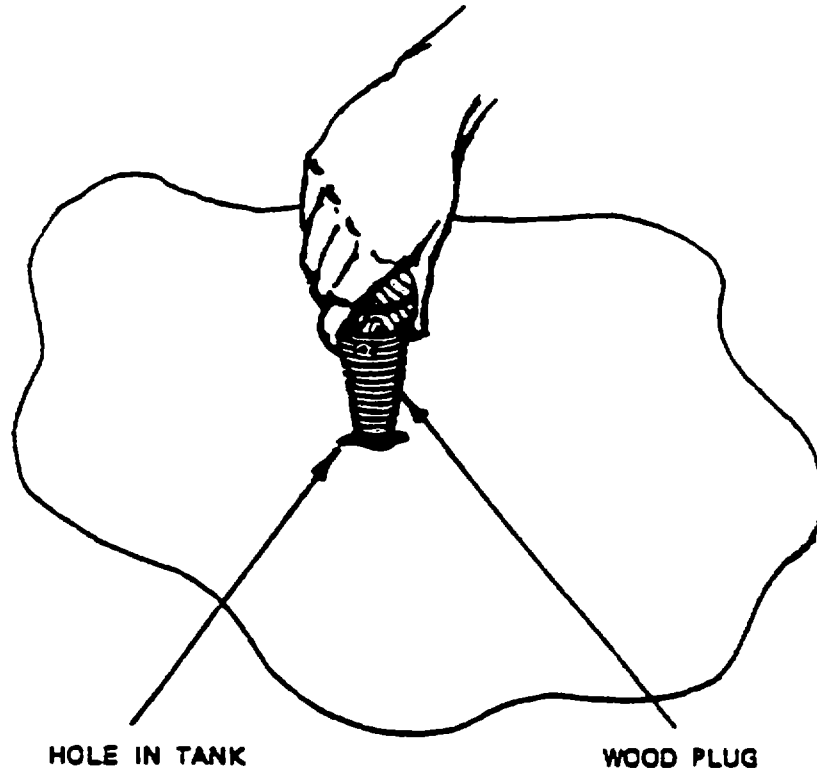

Figure 3-2. INSTALLATION OF WOOD PLUG
- (1) In emergencies, as an immediate temporary measure, the furnished wooden plugs may be used for expedient sealing of small holes or punctures. (Fig. 3-2).
- (2) Select the size plug needed to fit (seal) the tank puncture, insert in the hole and twist clockwise until the fit becomes quite snug and the tank leak is either stopped or slowed to the greatest possible degree. Follow-up regular inspection should be made of the inserted plugs, as possible tightening of the plugs may be necessary if the leaks resume. Later, if a leak is not totally stopped, the use of a small repair clamp may become necessary.
- (3) The size of hole or tear will determine the size of wood plug to be used.